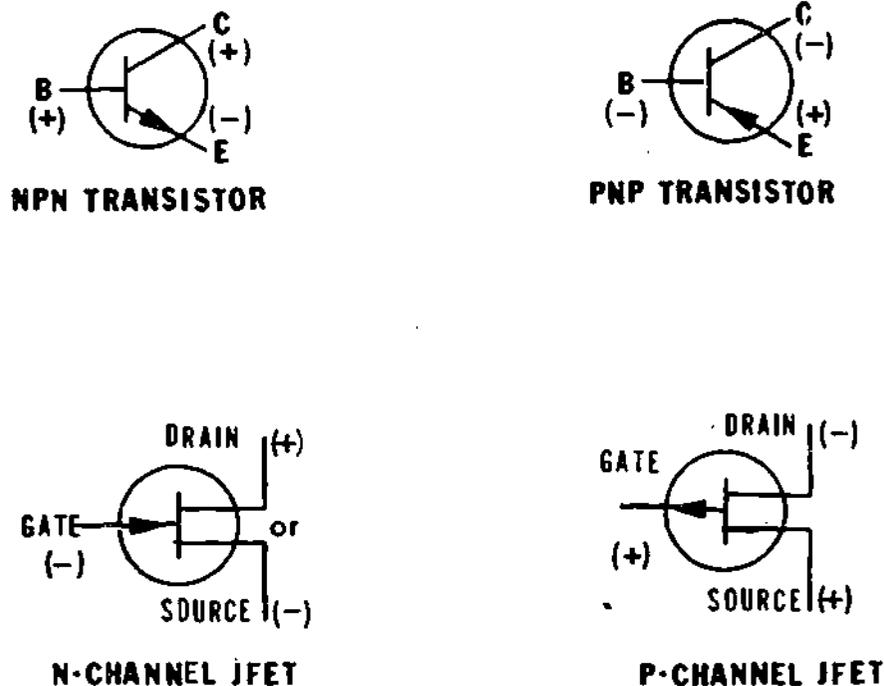

Figure 4
6. Just as there are two types of bipolar transistors (NPN and PNP), there are two types of JFETs (N-channel and P-channel). The labeled schematic diagrams for both types of transistors and FETs are shown in Figure 4.